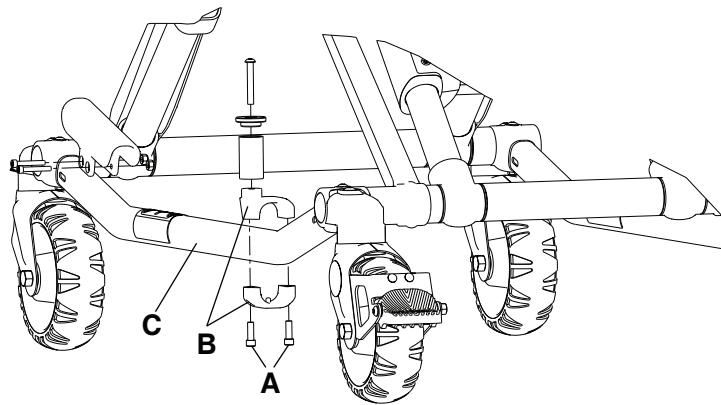

Figure 5 – Cot retaining post
1. Using a T30 Torx driver, remove the two socket head cap screws (A) that secure the brackets (B) to the base frame (C) (Figure 5). Save the screws.